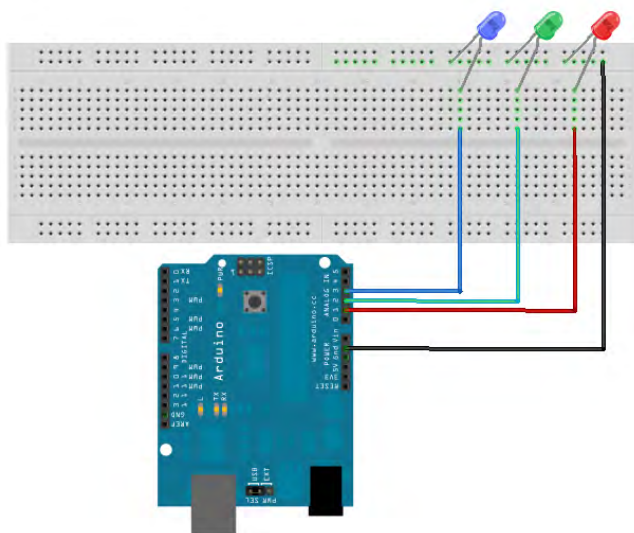

Figure 5-1. *Step one.*
1. Connect the LEDs to Arduino (Figure 5-1). We've found it's easiest to do this as follows: